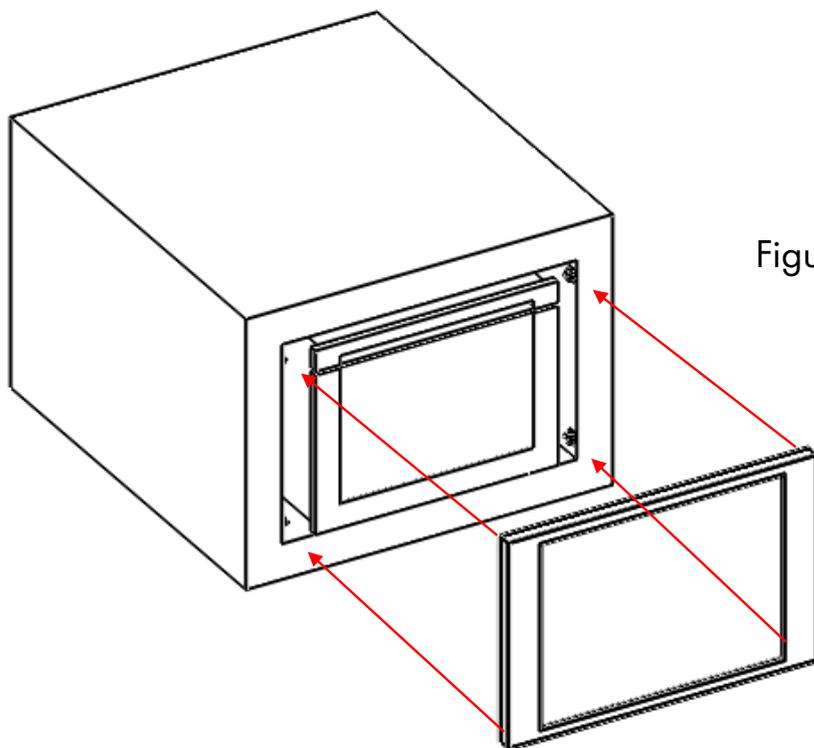
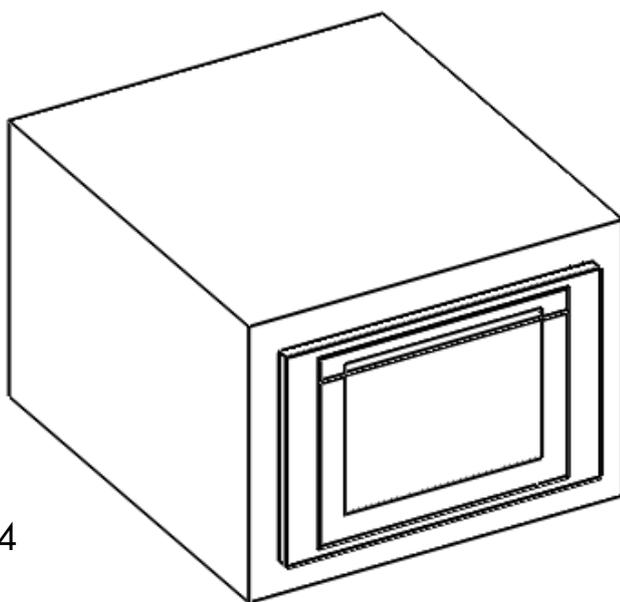

Figure 13
Figure 14
7. Insert the outer trim kit into the cutout (see Figure 13). Clip each buckle onto its corresponding buckle seat to complete the trim kit installation (see Figure 14).